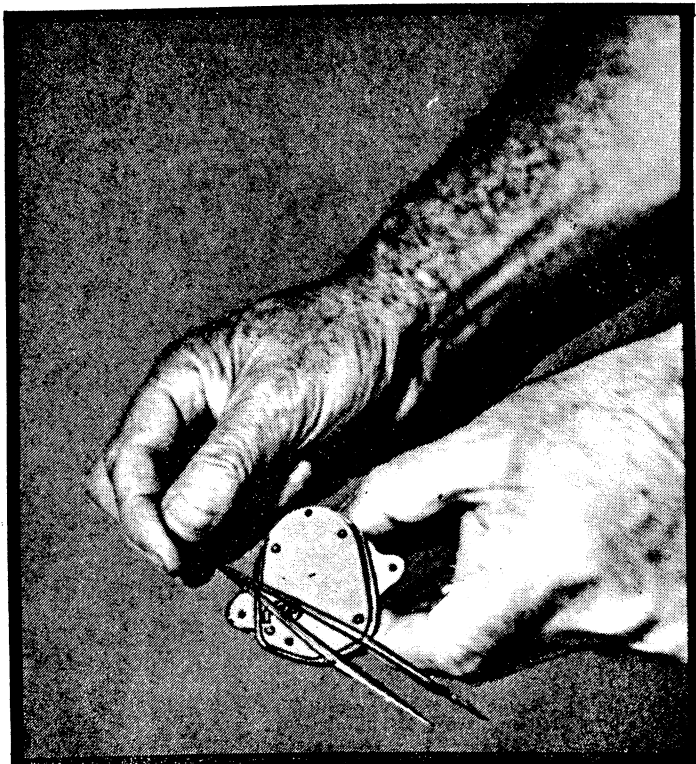

Figure 10
- g. Connect test cord from 115 volt circuit directly to timer motor. Place tweezers over shaft as in *Figure 10 A*, allow to turn freely for a few revolutions.